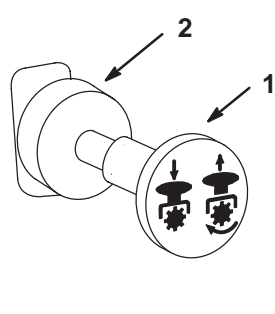

Figure 11
3. Move the PTO (power take off) to Off (Fig. 11).